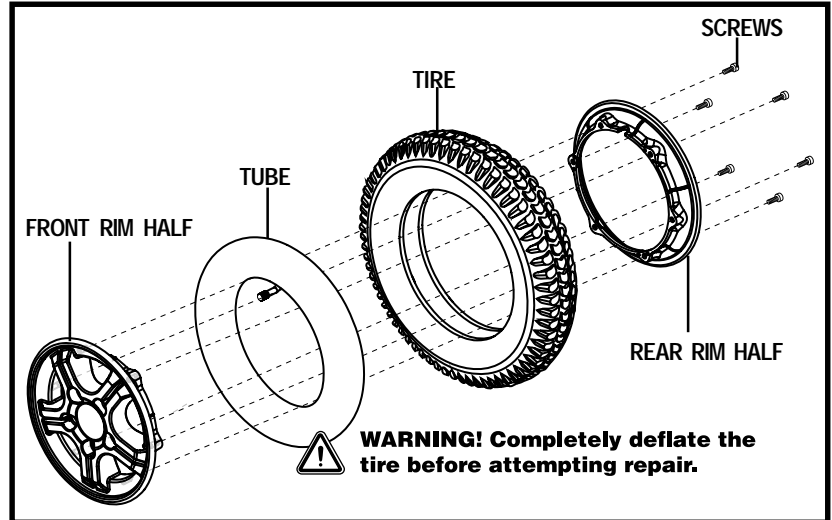

Figure 31. Drive Wheel Disassembly
6. Remove the screws that fasten the two rim halves together. See figure 31.
10. Reinstall the five (5) lug nuts onto the wheel hub and tighten.